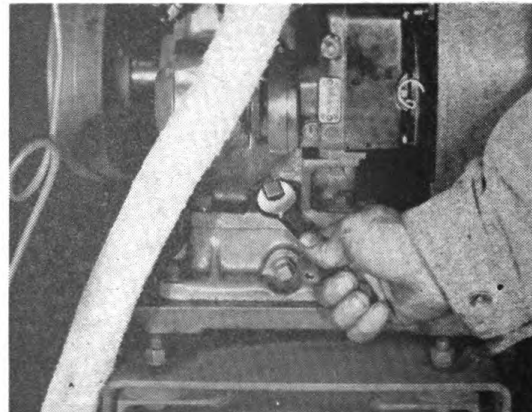

Figure 25
a. Remove plug (See Figure 25) and fill the base of the engine
The old oil should be drained and fresh oil added after every 64 hours of operation. Under extremely dusty conditions the oil should be changed oftener. (The drain plug is located just below the filler plug—See Figure 25.)